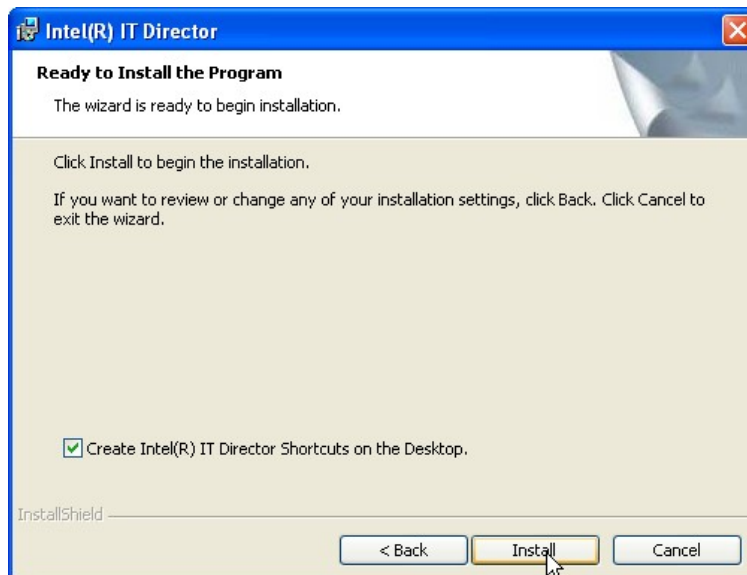

Figure 6-36: IT Director Installation
Step 11: The **Ready to Install the Program** screen in **Figure 6-36** appears.